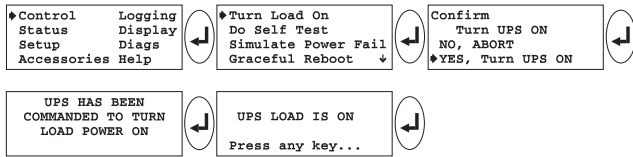

Fig 7-2 “Turn Load On” Command Sequence
1. Use the sequence in figure 7-2 on the PowerView interface to enter the “Turn Load On” command.